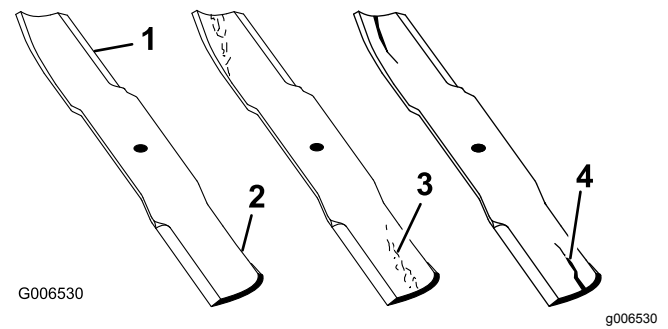

Figure 100
1. Inspect the cutting edges (Figure 100).
4. If you notice any cracks, wear, or a slot forming in this area, immediately install a new blade (Figure 100).